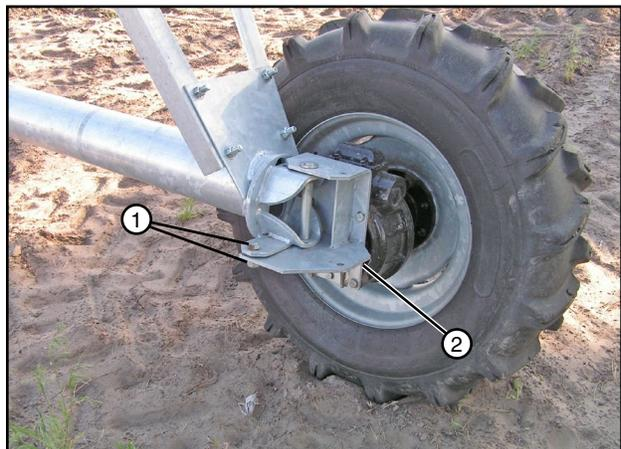

Figure 32-3 Operation Position Shown
6. Remove and retain the hardware securing gear box mount in the operation position. See figure 32-3.